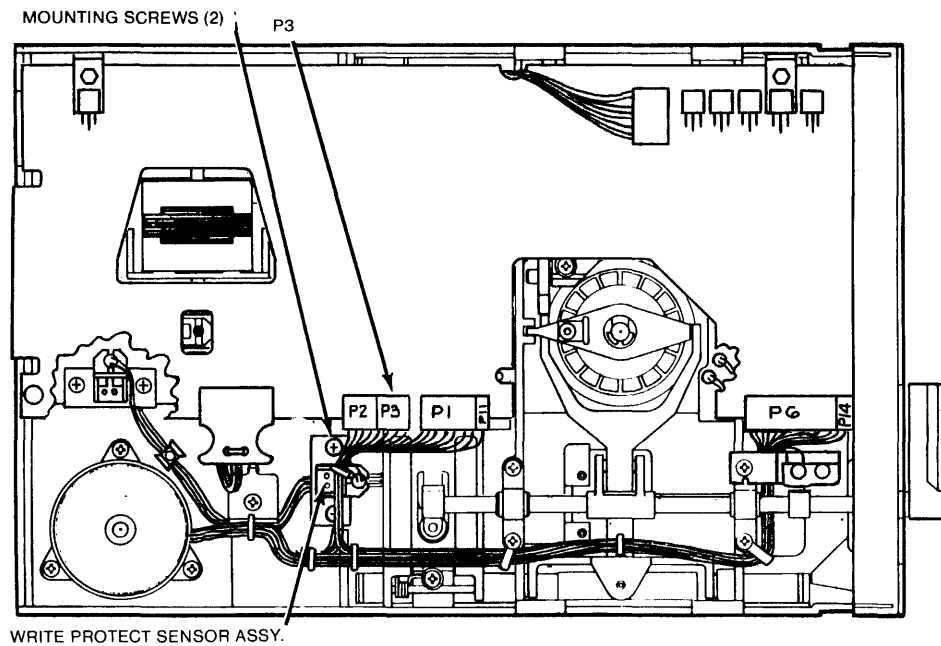

Figure 5-14
- B. Remove the two mounting screws that attach the Write Protect Sensor Assembly to the chassis (see Figure 5-14).